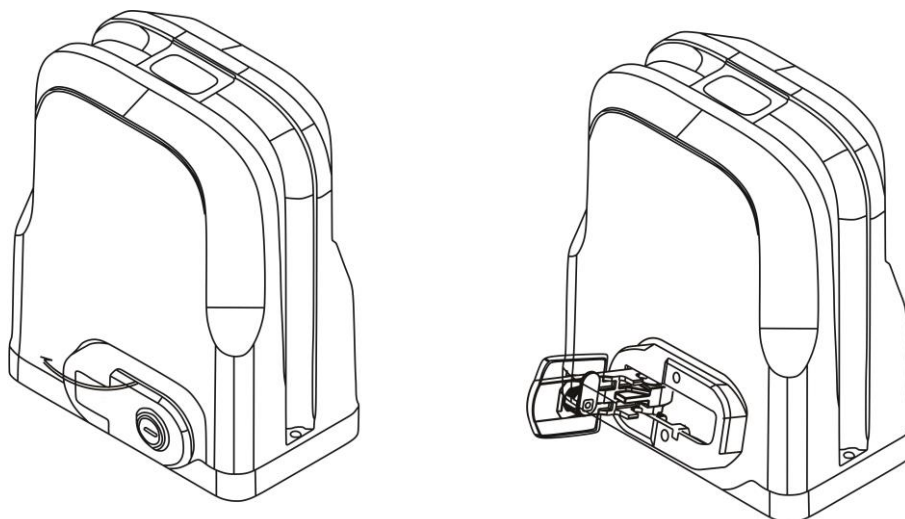

Figure 5: Turn on 90°
- Please unlock the main engine before installation, the unlock method is: insert the key, and open the manual release bar till it rotates by 90° as shown in Figure 5. Then turn the output gear and the gear can be rotated easily;